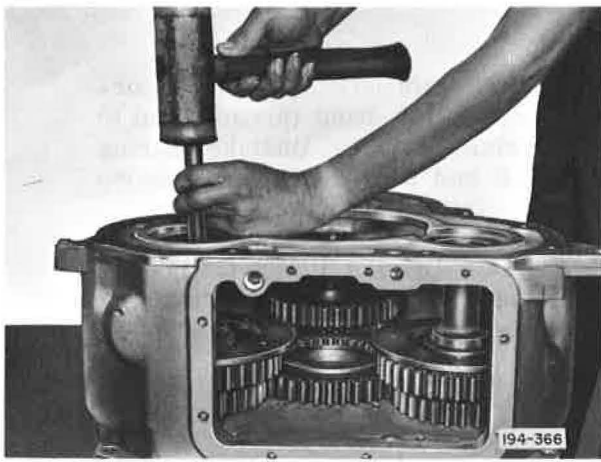
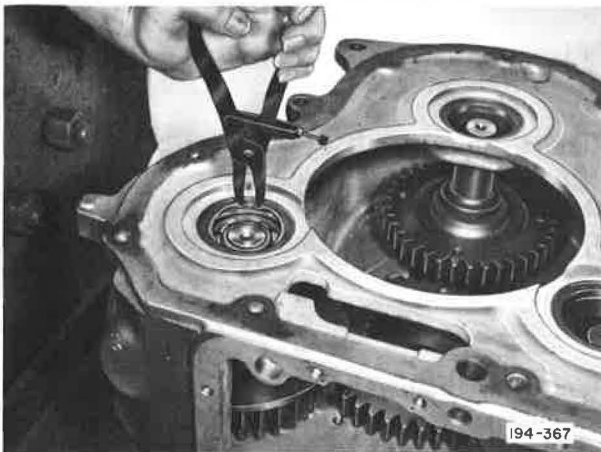

Figure 5-143. Driving Compound Countershaft Forward
Figure 5-144. Removing Compound Countershaft Rear Bearing Retaining Snap Ring
14. (TRDXL1070) Using a soft iron drift and hammer, drive each compound countershaft forward until gear bottoms against case. See Figure 5-143. Remove compound countershaft rear ball bearing retaining snap ring from case. See Figure 5-144.